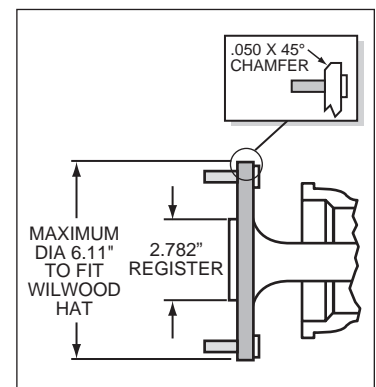

Figure 4. Axle Flange Maximum Dimension
- Maximum axle flange diameter must be no larger than 6.11" w/.050" x 45° chamfer (see Figure 4).